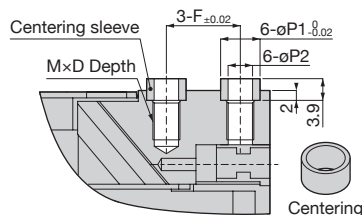

Fig. 2
- Refer to the dimensions in Fig. 2 and process the contacting part on the attachment.